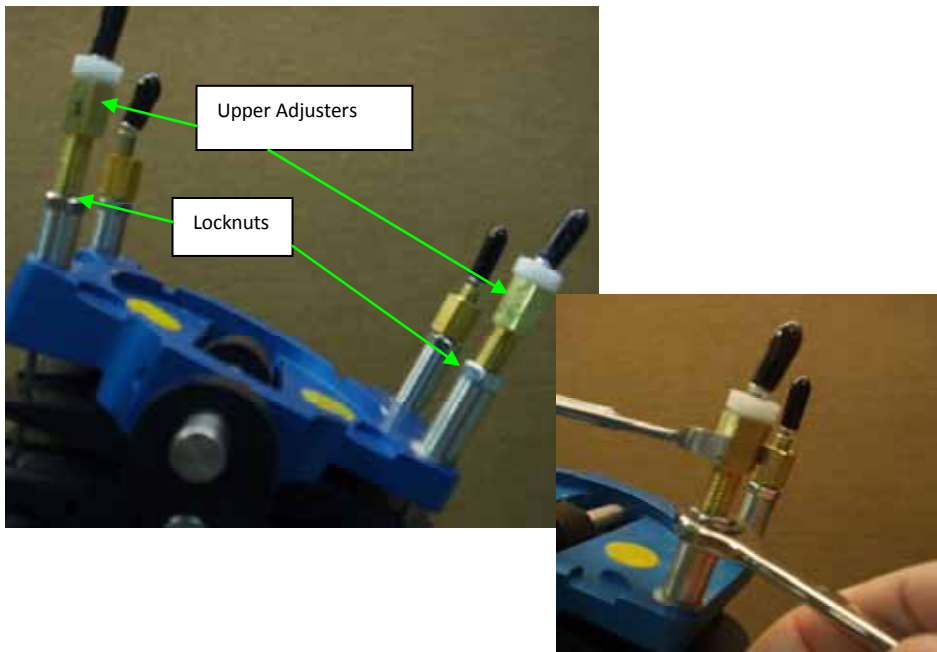

Figure 75 - Locking the Cable Adjusters
4. After completing removal of slack, tighten both locknuts (Figure 75) on upper adjusters.